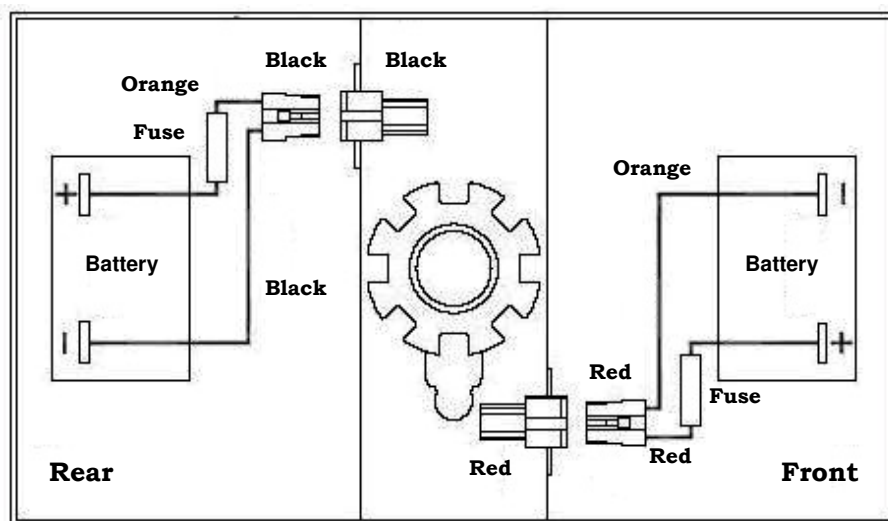
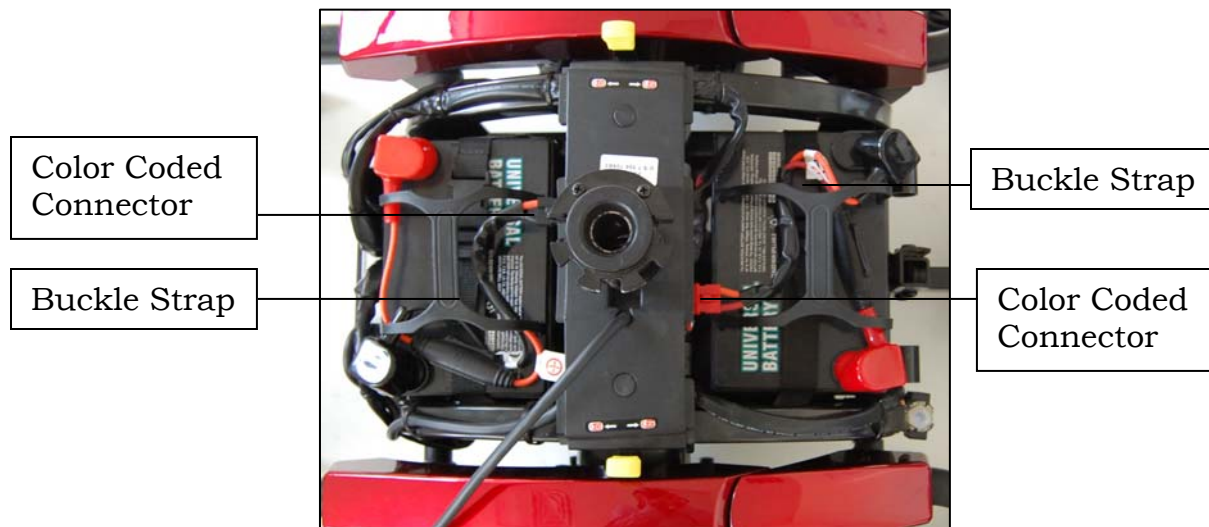

Figure 7
Figure 10
2. Make sure both battery harnesses are plugged into the power chair and locked. See figure 7 on page 15, and figure 10 on page 16.
There is a “Battery Connection Diagram” located on the inside of the rear battery cover. See figure 7.
3. Place the batteries into the battery tray. Be certain the color coded connectors match. Refer to the "Battery Connection Diagram" shown in figure 7 on page 15.
4. Secure the batteries in place using the buckle straps. See figure 10.
5. Connect each color coded battery cable connector to the corresponding connector on the base unit. See figure 10.